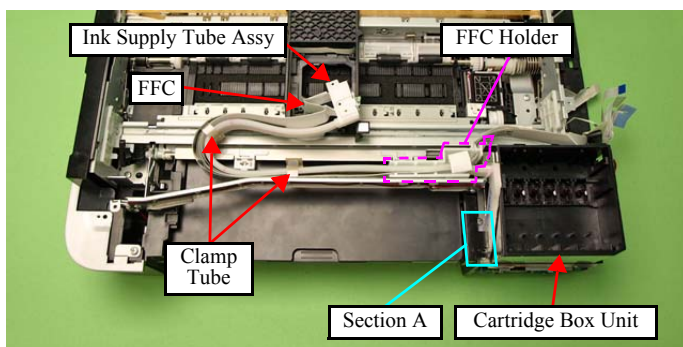

Figure 4-79. Removing the Ink Supply Tube Assy
To prevent ink leakage, make sure not to separate the Ink Supply Tube Assy and the Cartridge Box Unit by removing the screws (x2) on the section A shown in Fig. 4-79. Loosening the screws on the section A even just once will cause ink leakage, therefore, make sure to replace the Ink Supply IC Holder Assy with a new one.
5. Release the Clamp Tubes (x2). (See Fig. 4-79.)